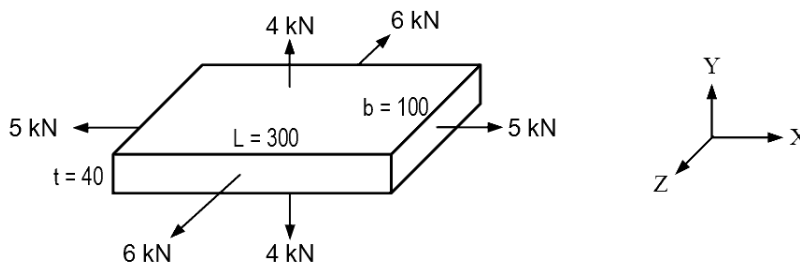

Figure.1
b) A metallic bar $300 \text{ mm} \times 100 \text{ mm} \times 40 \text{ mm}$ is subjected to external forces as shown in fig. 1. Determine change in volume of the block. Take $E = 2 \times 10^5 \text{ N/mm}^2$, $\mu = 0.25$.